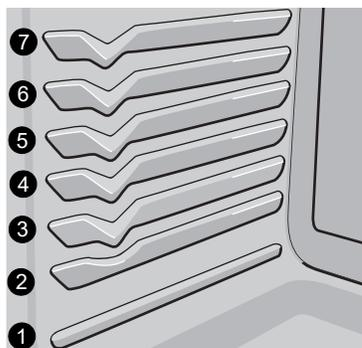

Figure 2: Oven rack positions
- For best results when baking cakes or cookies using two oven racks, place an offset rack in position 3 and a flat rack in position 6 (See Figure 2).
- For best results when baking cakes using two oven racks, place an offset rack in position 3 and a flat rack in position 6 (See Figure 2).